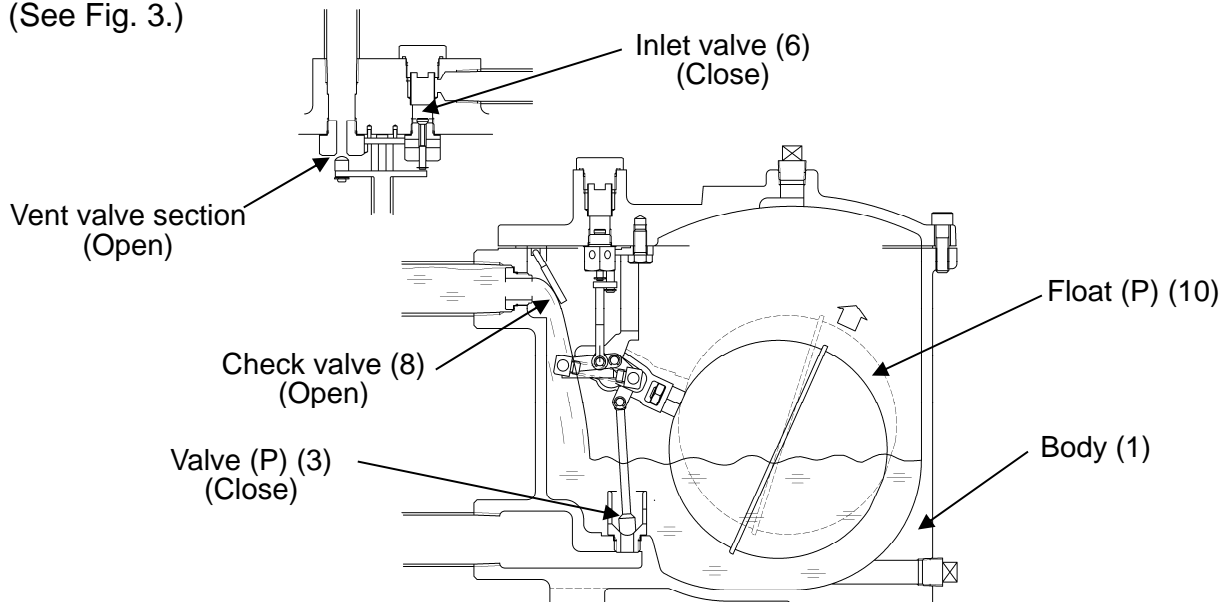

Fig. 3
If the condensate flows from the condensate inlet through the check valve (8) to the body (1), float (P) (10) is moved up by the ascending force. In connection with the movement, valve (P) (3) opens. If the pressure at the inlet side is larger than the back pressure on the product exit side, condensate is removed in this condition. (See Fig. 3.)